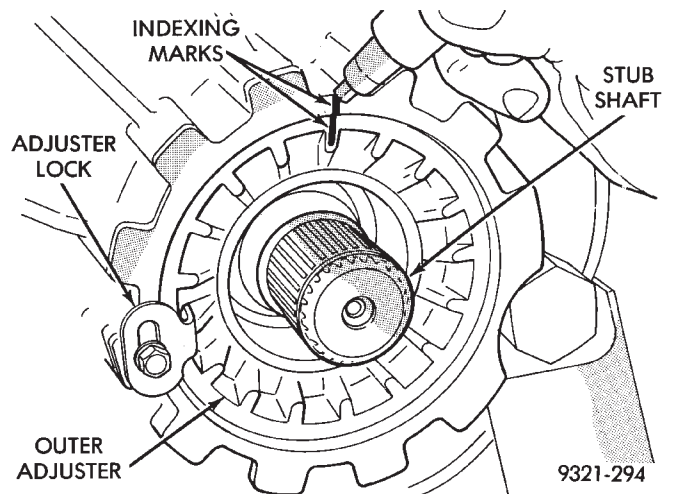

Fig. 59 Indexing Outer Adjuster
- (6) Index outer adjuster (Fig. 59). Remove lock bracket and back out adjuster exactly one revolution. Then remove differential cover.
- (7) Remove The inner adjuster lock bracket. Then remove the inner adjuster.